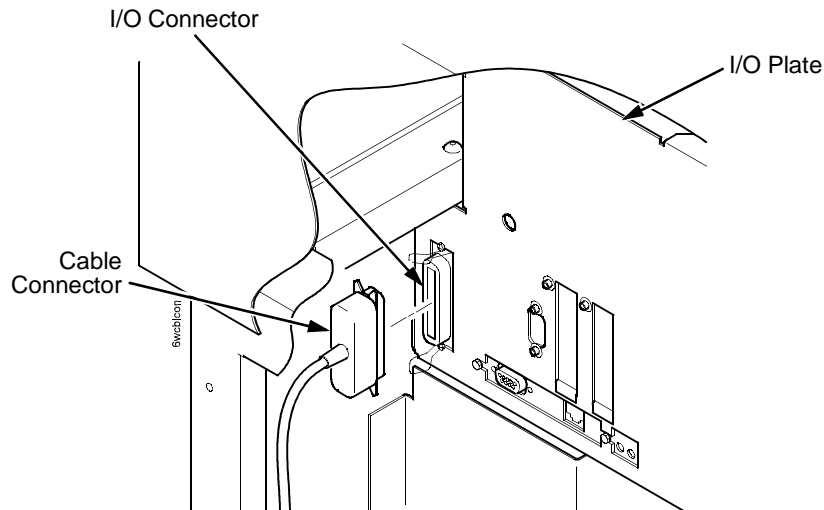

Figure 32. Upper Inside View of the Cabinet Model Showing Cable Connector Attachment
3. Connect the customer supplied interface cable from the host computer to the appropriate printer interface connector (refer to Figure 27 through Figure 32).